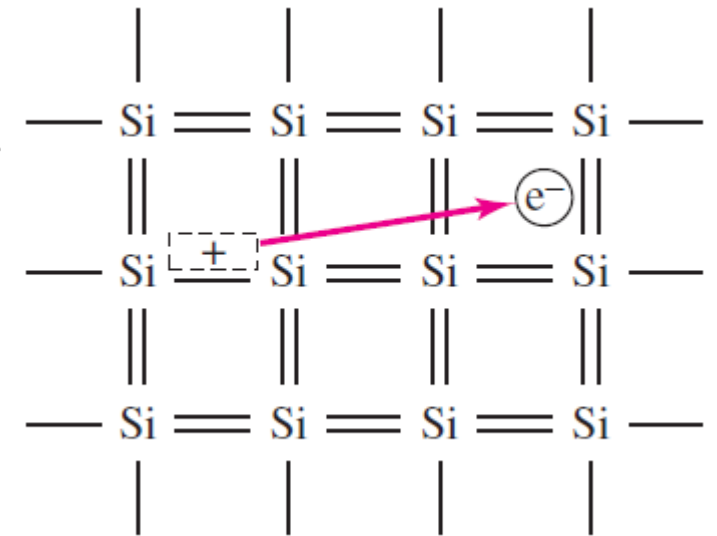

Figure 1.3
- To **break the covalent bond** and **move away** from its original position as schematically shown in Figure 1.3.